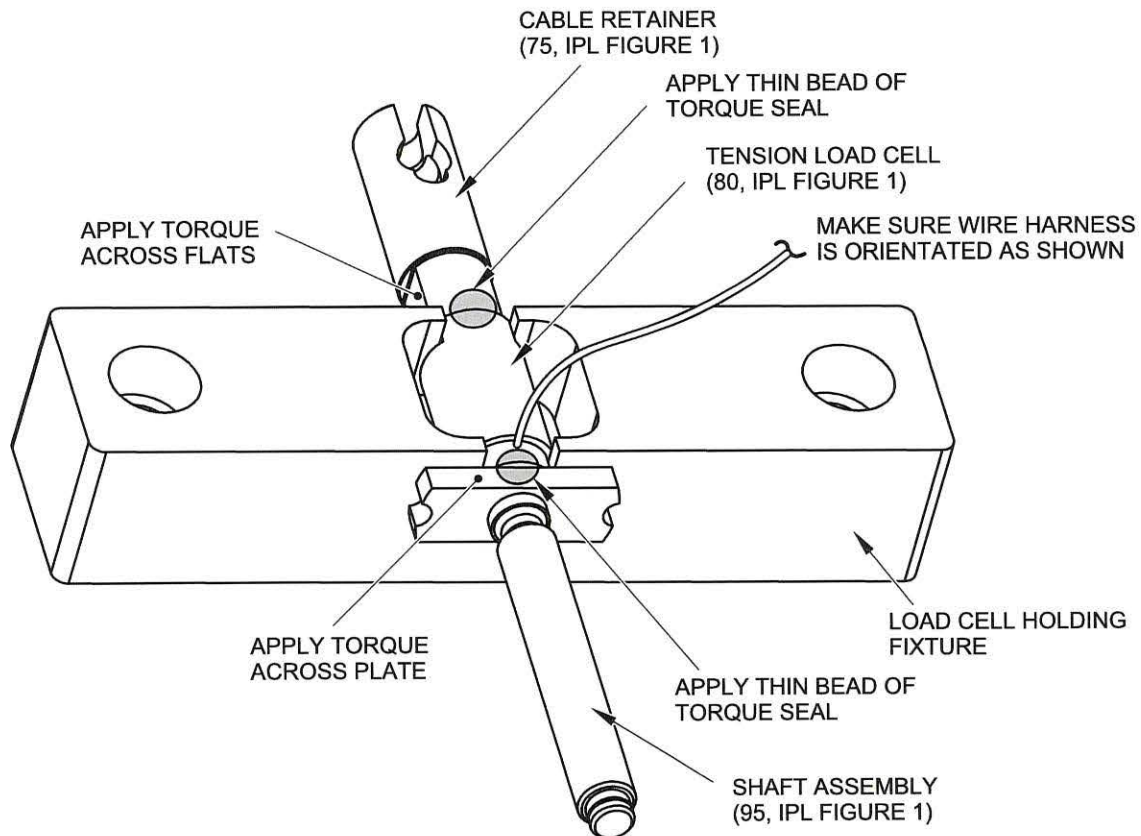
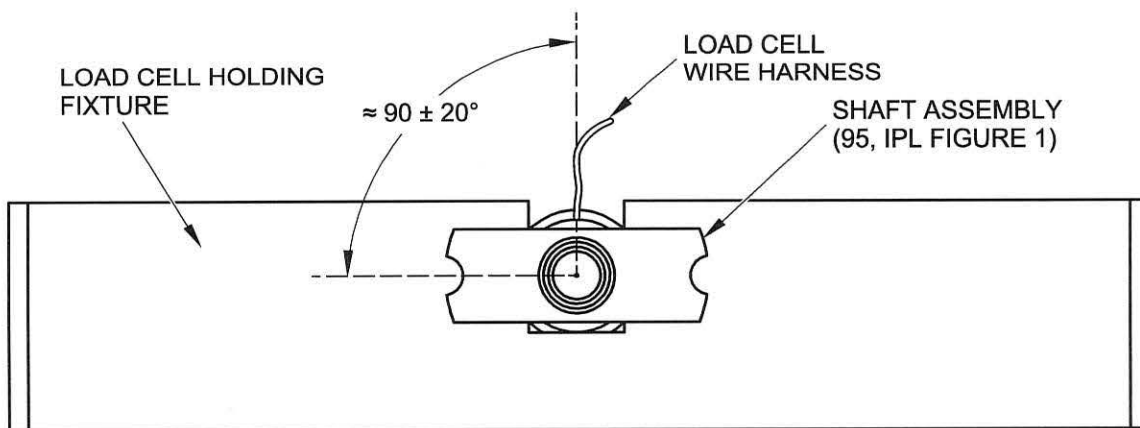

Figure 2-3. Installation on Load Cell Holding Fixture
Figure 2-4. Load Cell Alignment
- (7) Carefully remove the cable retainer (75), tension load cell (80), and shaft assembly (95) as an assembly from the housing (90).
CAUTION: DO NOT APPLY TORQUE TO THE BODY OF THE TENSION LOAD CELL (80). PRIOR TO APPLYING TORQUE, INSTALL THE TENSION LOAD CELL (80) INTO THE LOAD CELL HOLDING FIXTURE AS SHOWN IN FIGURE 2-3. NOTE THAT THE WIRE HARNESS FROM THE LOAD CELL SHOULD BE ORIENTATED TOWARDS THE TOP SURFACE OF THE FIXTURE.
- (8) Install the tension load cell (80) with attaching parts into the Load Cell Holding Fixture, P/N T49900-890HF1 (See Figure 2-3).
CAUTION: DO NOT APPLY TORQUE TO THE BODY OF THE TENSION LOAD CELL (80). PRIOR TO APPLYING TORQUE, INSTALL THE TENSION LOAD CELL (80) INTO THE LOAD CELL HOLDING FIXTURE AS SHOWN IN FIGURE 2-3. MAKE SURE THAT THE WIRE HARNESS FROM THE LOAD CELL IS ORIENTATED TOWARDS THE TOP SURFACE OF THE FIXTURE.
- (3) Torque the shaft assembly (95) and cable retainer (75) to 160 to 180 in-lbs (18 to 20 N-m) with the 5/8 inch Torque Wrench and the Load Cell Holding Fixture, P/N T49900-890HF1 (see Figure 2-3).
- (a) Make sure that the tension load cell (80) wire harness is aligned to the plate on the shaft assembly (95) as shown in Figure 2-4. This orientation will make sure that the wire harness can be routed through the opening provided in the housing (90).
- (b) If the tension load cell (80) wire harness is not aligned correctly, remove the shaft assembly (95) and remove/add shims (85) until alignment is achieved.
- (c) Apply a thin bead of Torque Seal, 83314 Orange, across the wrench flats adjacent to each other on both sides of the tension load cell (80). Torque Seal shall be applied in line with the tension load cell (80) wire harness so it is visible through the window in the housing (90) (See Figure 2-3).